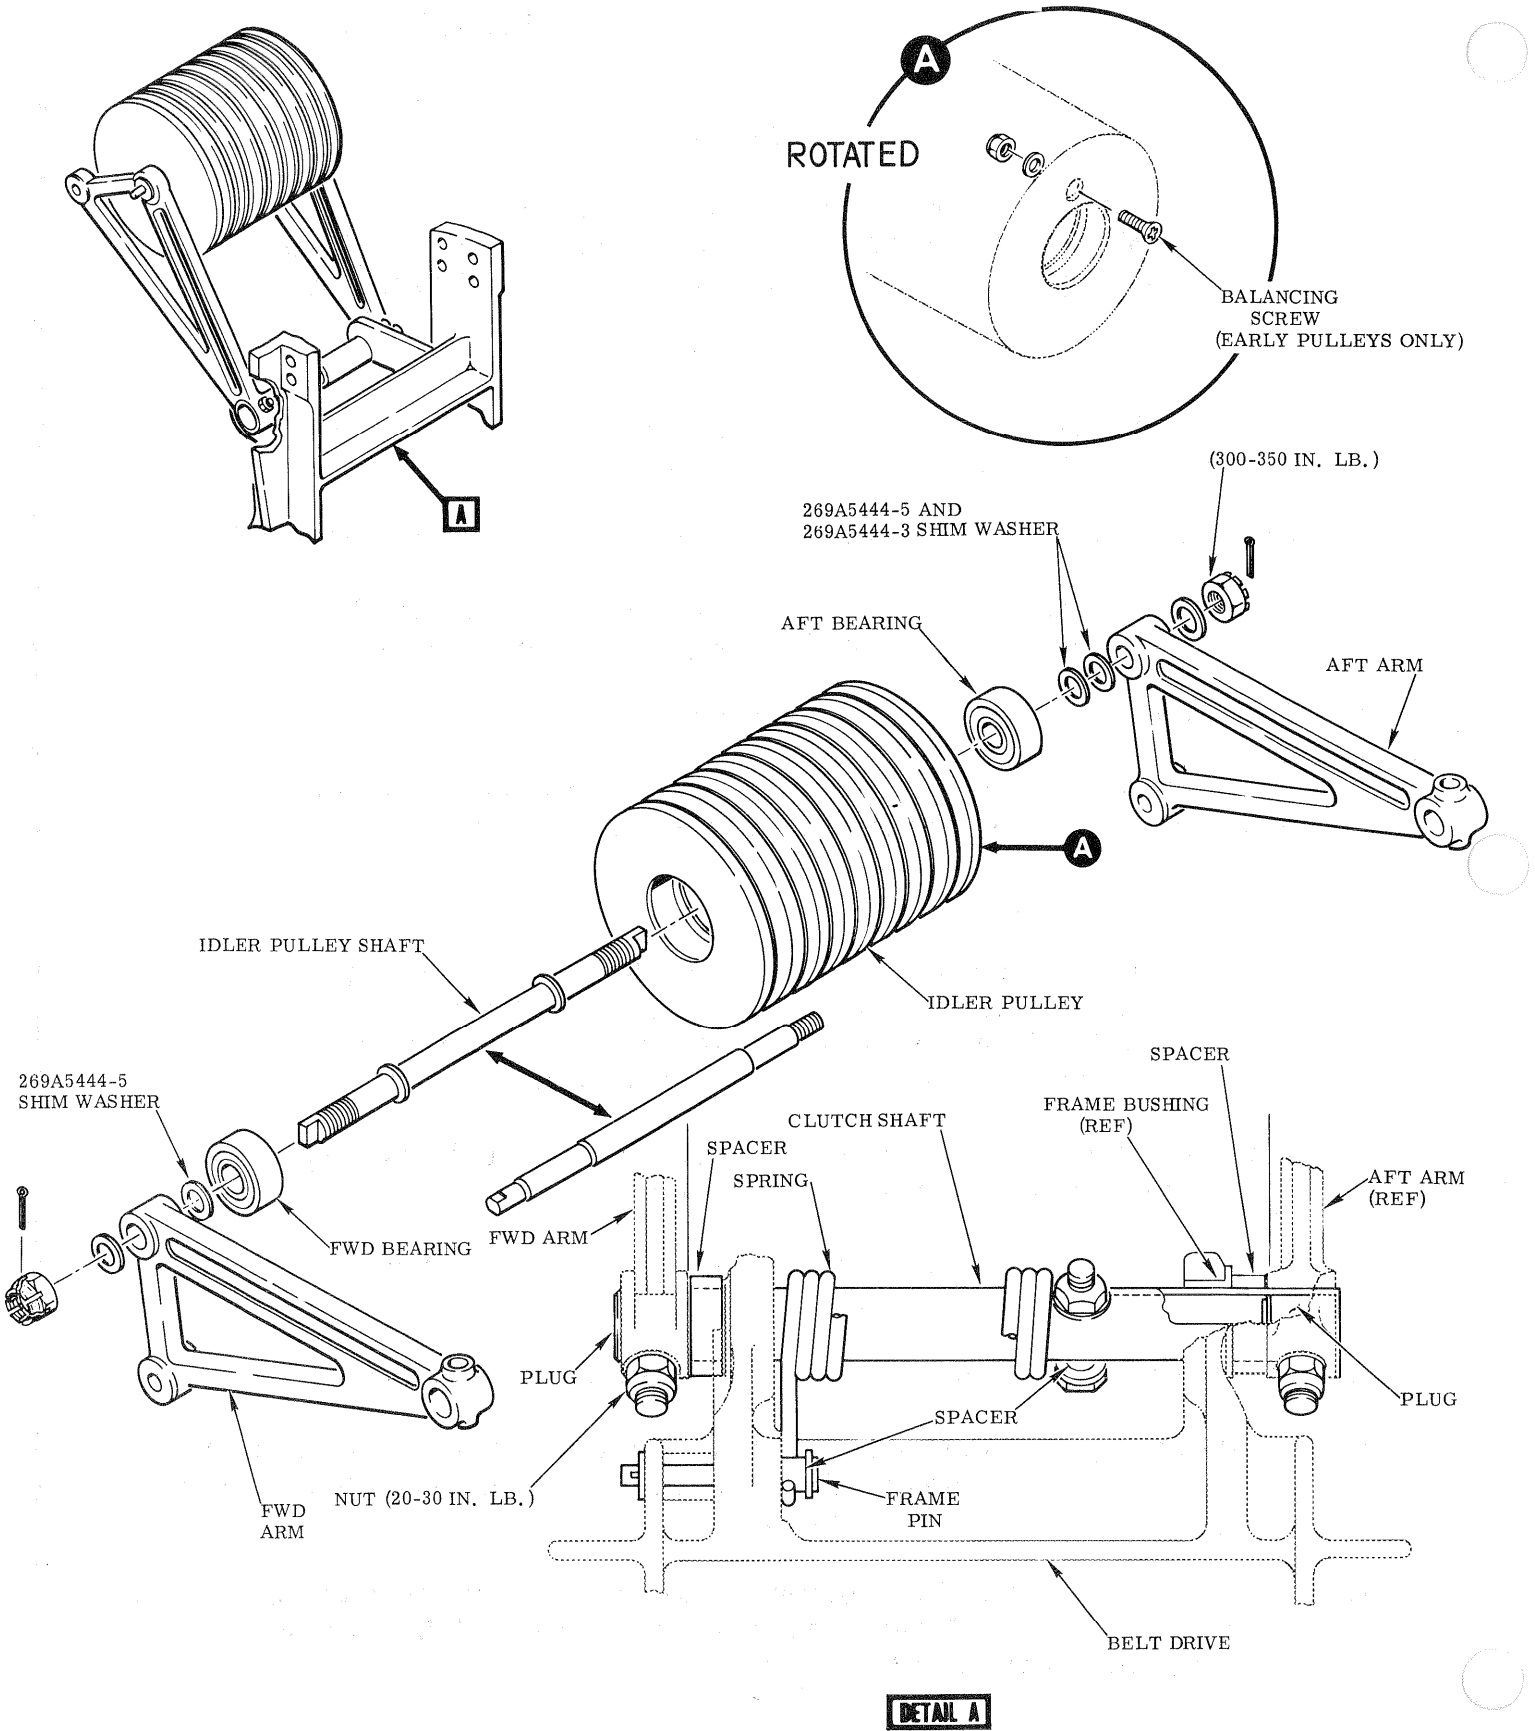

FIGURE 1. IDLER PULLEY CLUTCH ASSEMBLY (SHAFT-MOUNTED DUAL ARM SUPPORT)
- f. Remove cotter pin, nut and washer securing forward end of pulley shaft to pulley arm. (See Figure 1.)
- w. Using arbor press, lightly press first 269A5050-58 bearing on 269A5438 shaft until inner race is flush with shaft shoulder. Insert shaft and bearing into pulley; press shaft and bearing into pulley until outer race of bearing is fully seated in pulley bore. (See Steps I and II, Figure 1.)
- x. Support installed bearing and pulley on bed of arbor press; slip second 269A5050-58 bearing and installation sleeve on opposite end of shaft. (See Step III, Figure 1.)